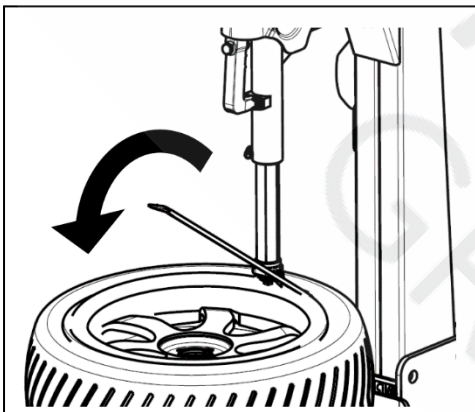
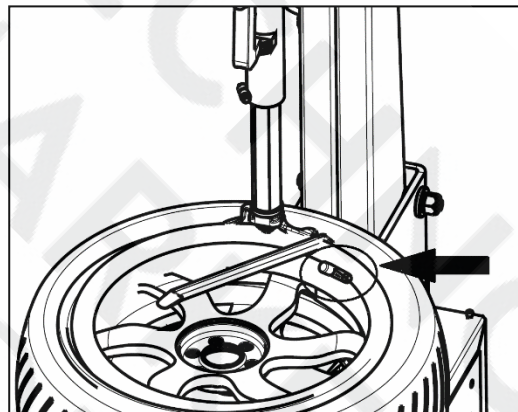

FIG27
FIG28
- Use the crowbar to detach until the lip to the hump of the demount tool (FIG27). Step the turntable rotation pedal (FIG3-13) to rotate the turntable clockwise until the rim of the wheel fall off. If handling the tube tire, to avoid the damage on the tube, you should keep the nozzle of the tire 10cm from the right side of the demount tool (FIG28).